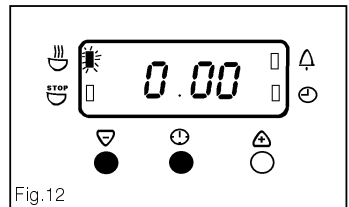

Fig.12
- i) To cancel an automatic programme press the Selector Control button until the 'Cook Time' indicator neon (👉) flashes. Press the decrease control ( - ) until the display reads 0.00 as Fig. 12.